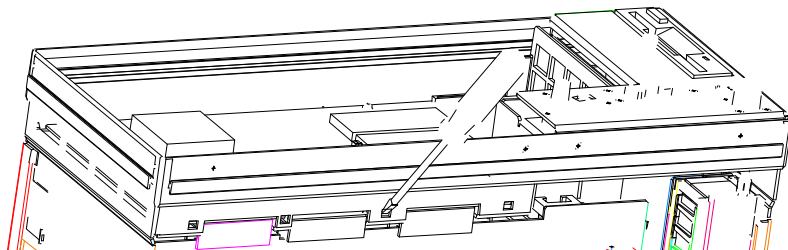

Fig. 3-2 Removing the front module controller
- Remove the 10 semi screws (590) in the front module controller and remove the front module controller in the following way (see Fig. 3-2):